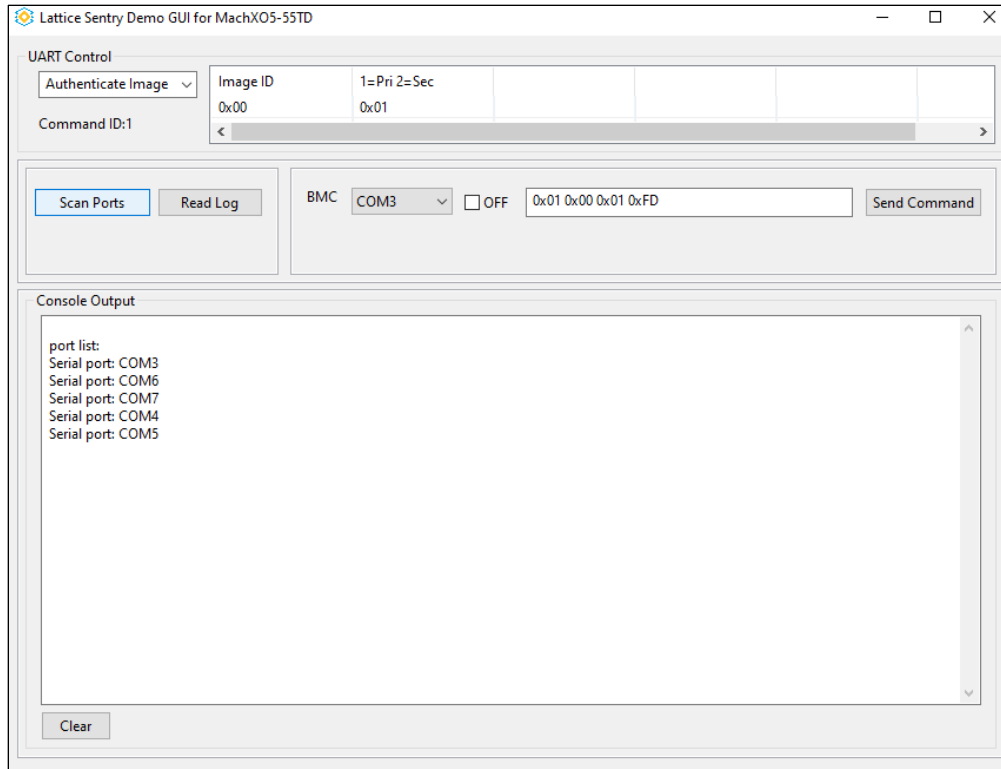

Figure 9.5. Lattice Sentry Demo GUI Scan Ports
5. When the Demo GUI window opens, click **Scan Ports** (Figure 9.5).